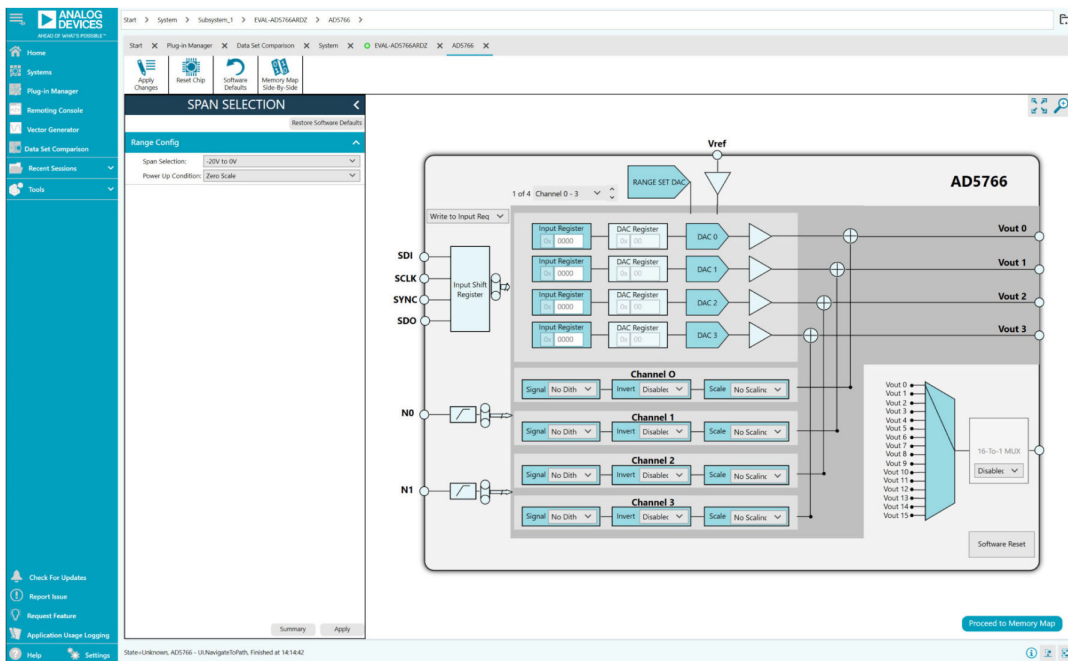

Figure 6. AD5766 Chip Tab for the EVAL-AD5766ARDZ ACE Software
3. Double click the **AD5766** icon to open the **AD5766** chip tab (see Figure 6). This tab displays the block diagram and allows the user to configure the digital-to-analog converter (DAC) input registers and control registers. The hardware registers on the AD5766/AD5767 are not altered until the **Apply Changes** button is clicked.